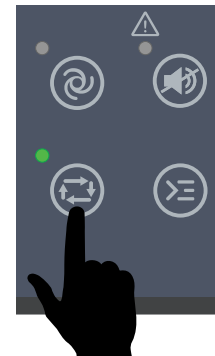
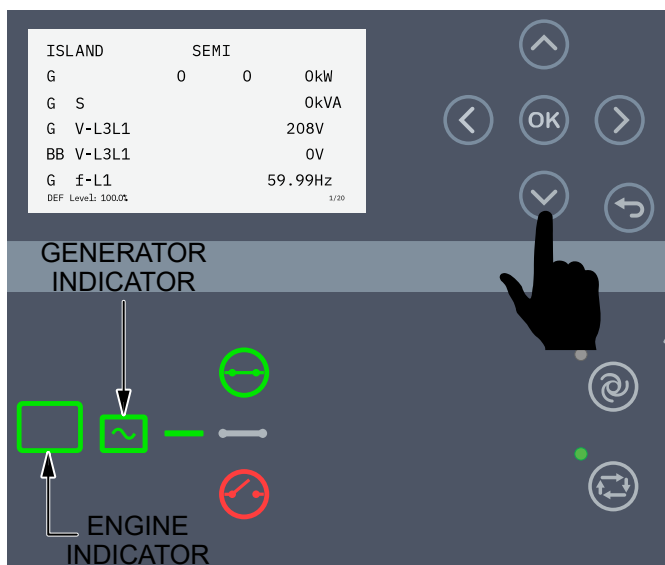

Figure 52. Semi-Auto Mode Button
Figure 54. View Menu (Voltage And Frequency)
- On the digital controller, press the **Semi-Auto Mode button** as shown in Figure 52. The **green LED** next to the button will turn on, and the status message **ISLAND SEMI** will appear on the screen (Figure 54).
- The **Engine indicator** (Figure 54) and the **Generator indicator** on the digital controller should both be lit (**GREEN**). Verify the voltage (V) and frequency (Hz) values match the expected output.